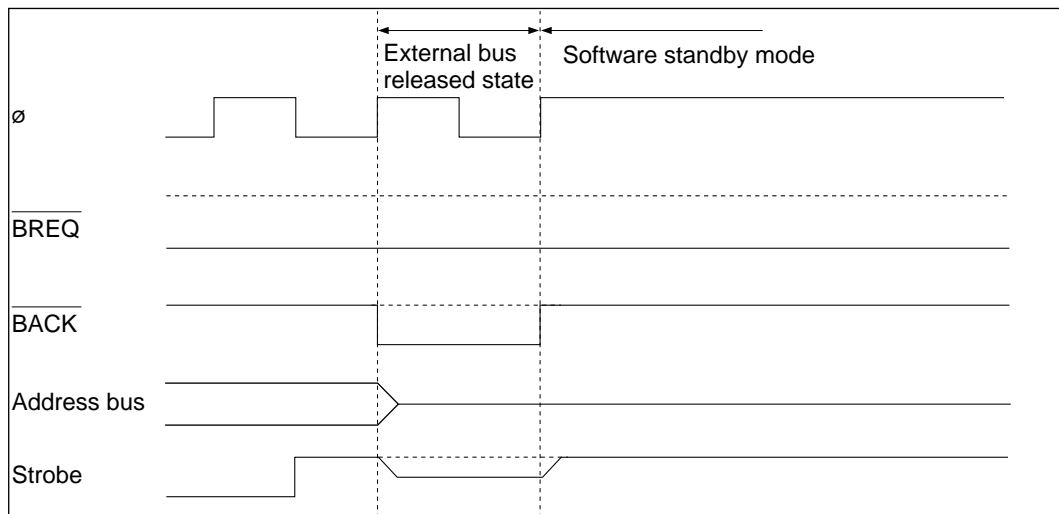

Figure 7-25 Contention between Bus-Released State and Software Standby Mode
- If there is contention with a bus request from an external bus master when making a transition to software standby mode, a one-state bus-released state may occur immediately before the transition to software standby mode (see figure 7-25).